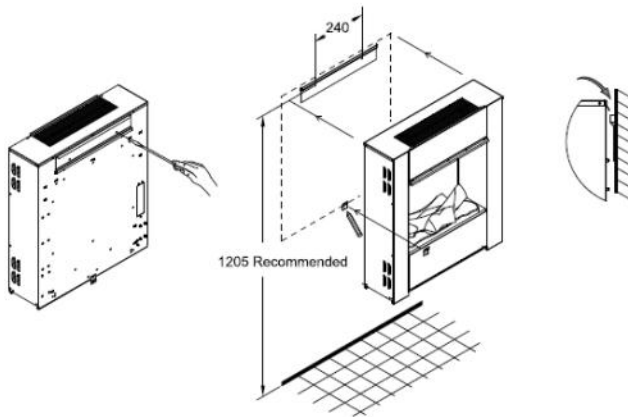

Figure 2- Installation of the appliance
6. Hang the appliance again on the wall fixation bracket and secure it in place using the screw provided through the safety fixation bracket (Figure 2).